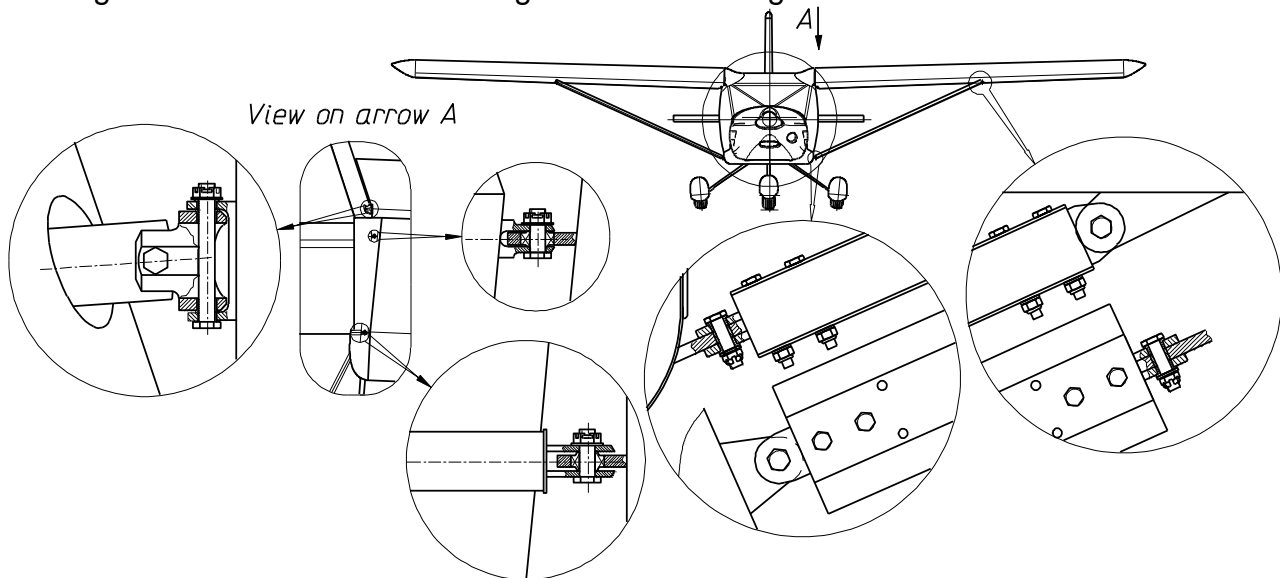

Fig. 16 Wing removal
Left and right wings shall be removed in turn (in any order) according to the following sequence (see **Fig. 16**):
4. Disconnect the full and static pressure lines at their joints (left wing, see **Fig. 16**).